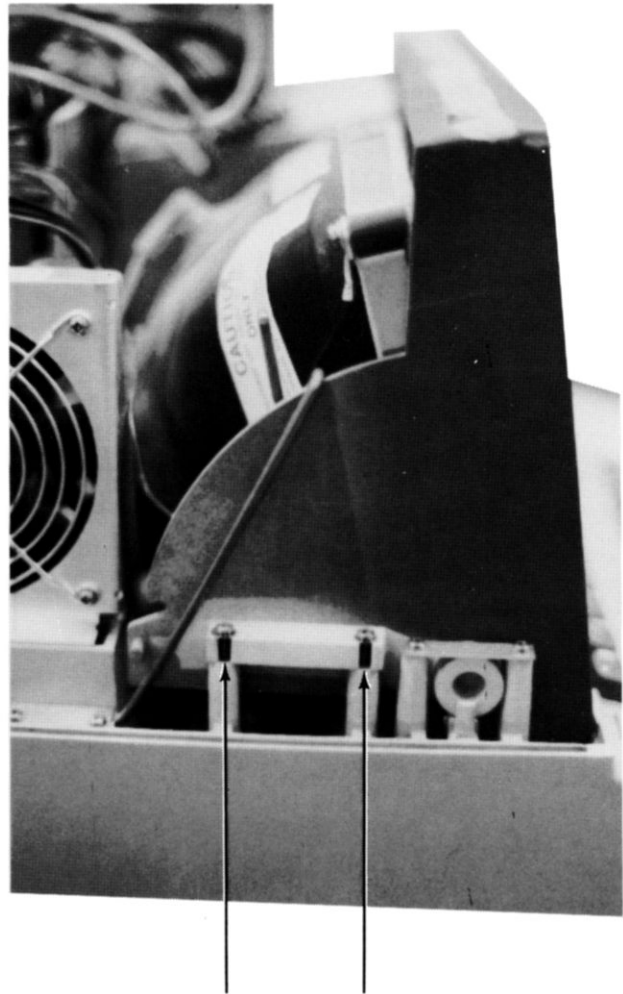

Figure 2-1. Display Panel Attach Screw Locations
- h. Pull up the lock bracket on the left side of display bezel and push bezel back into mainframe. See figure 2-1.
- j. Reattach the four display bezel attach screws and washers. See figure 2-1.